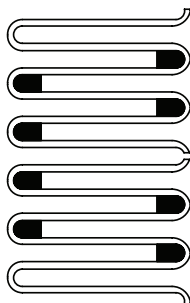

Figure 2 - Coil Spacers for sizes 1070 through 1090T
- B. Sizes 1070 through 1090T** – Insert coil spacers in the last 4 coils of each grid half (8 spacers per grid half), as shown in Figure 2.